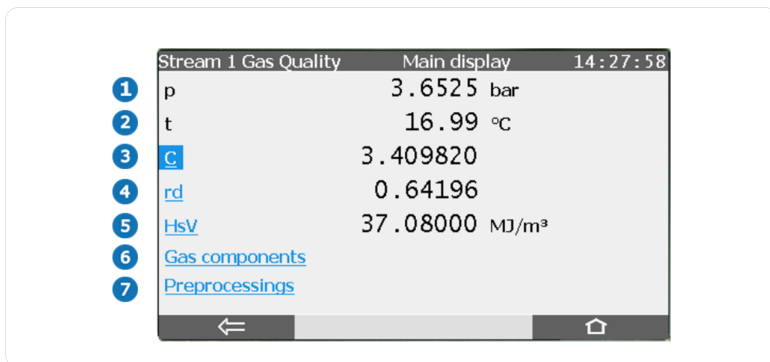

Fig. 5-7: Gas quality: Main display (example)
- 3 c is the conversion factor, the hyperlink leads to Gas Quality AFB's main display ⇔ Fig. 5-7: Gas quality: Main display (example) (p. 37)